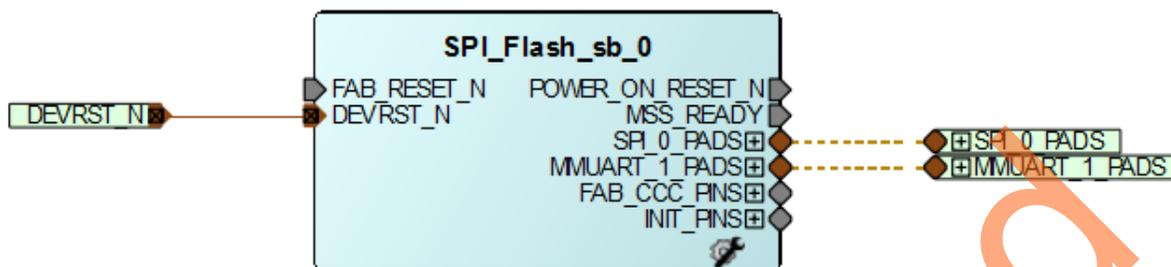

Figure 11 • SPI_Flash Smart Design
19. Select **File > Save** to save **SPI_Flash**. Select the **SPI_Flash** tab on the Smart Design canvas, as shown in Figure 11.